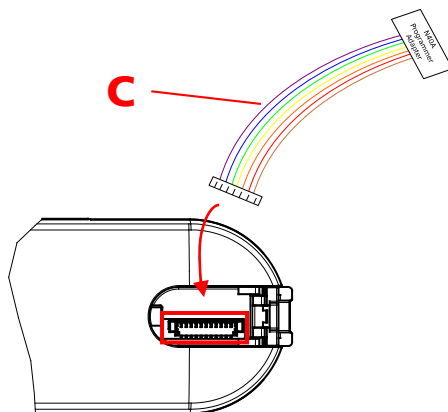

Figure 12: Handset Top / Plug-In Handset
3. Plug the connection cable (C) on the handset and the PU (CON 1) (Fig.12 & 13).